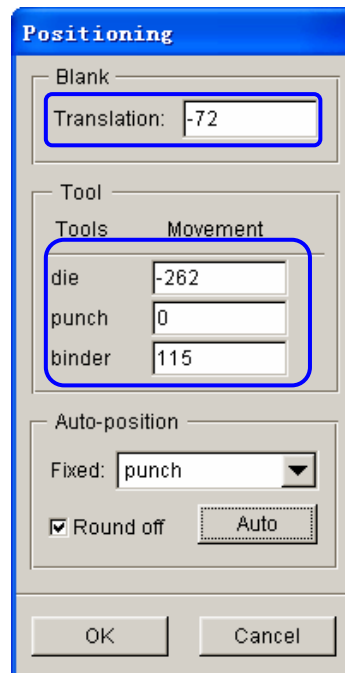

Figure 1.31 After tools auto positioning
3. Then, click the **Auto** button to position all tools and blanks. The result is illustrated in Figure 1.31.